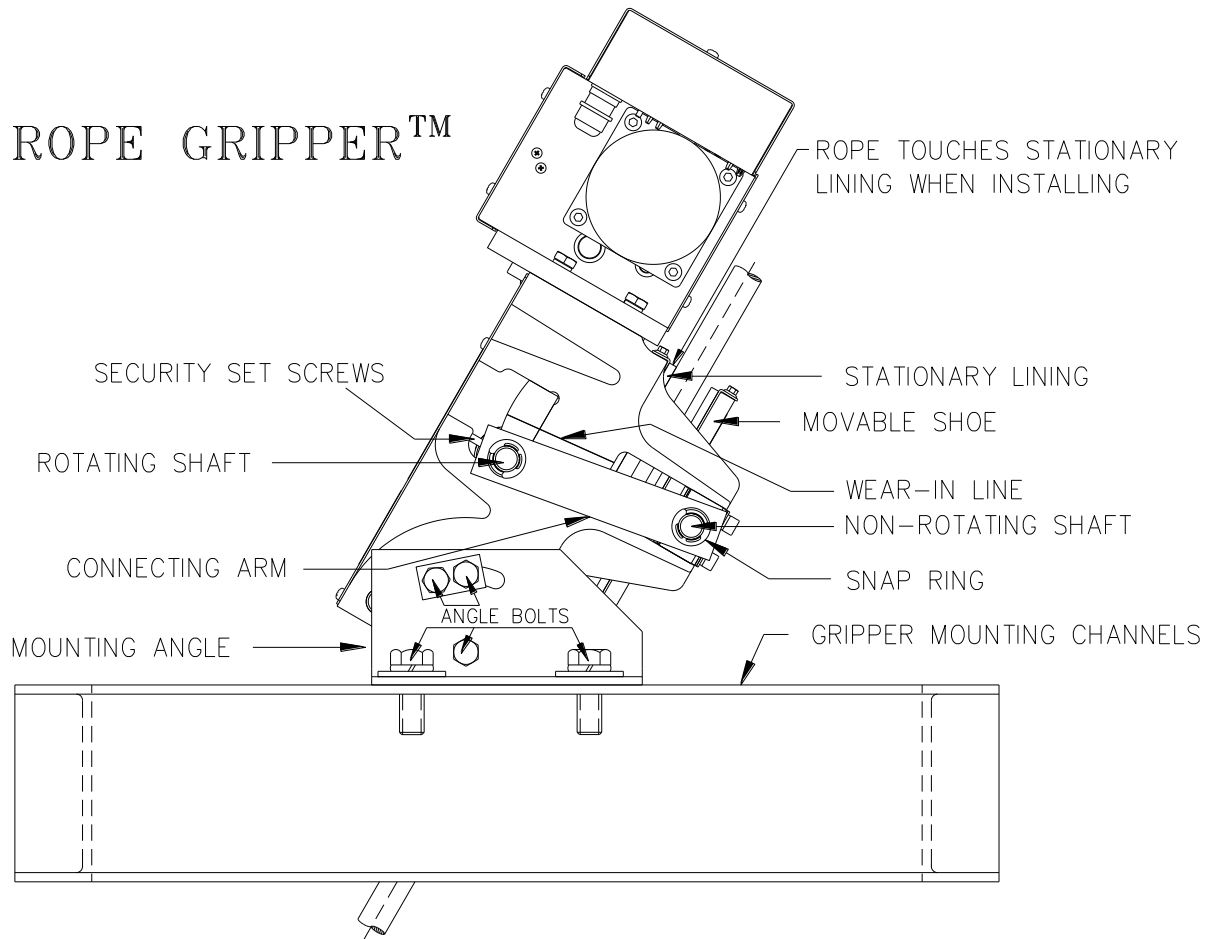
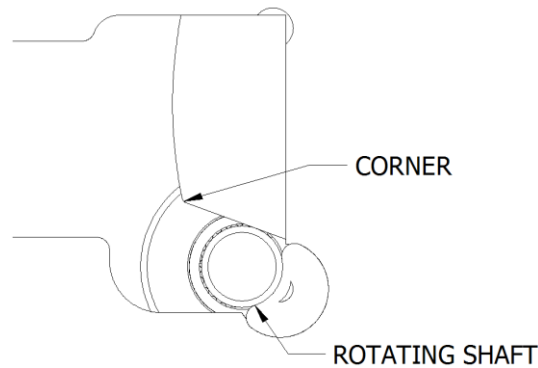

Figure 1
Figure 5
- Be sure security set screws are holding the rotating shaft in the LOADED (open) position as shown in Figure 1 above.
A line has been marked on the side wall of the gripper to aid in the Wear-In process. Note that at this point in the procedure, this line is well *above* the Connecting Arm and will be met or covered by the Connecting Arm during the Wear-In process (see Figure 1 for locations of Connecting Arm and Wear-In Line).
- As the linings wear in, the rotating shaft will move up the cam slot and around the corner of the cam noted above (Figure 5), and the connecting arms (see Figure 1) will move up the side wall and begin to match or line up with the wear-in line marked on the side wall.